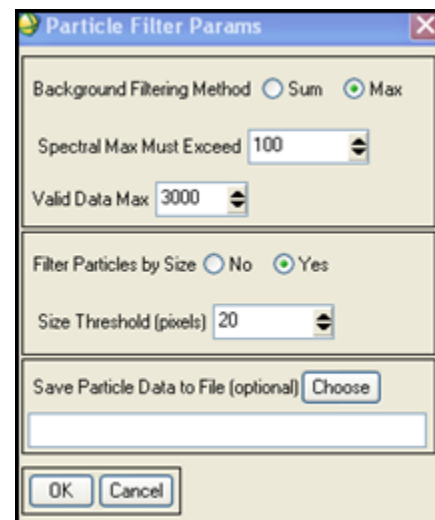

Figure 8.1b. Particle Filter Params box
- The Particle Filter Params dialog box will open (Figure 8.1b).